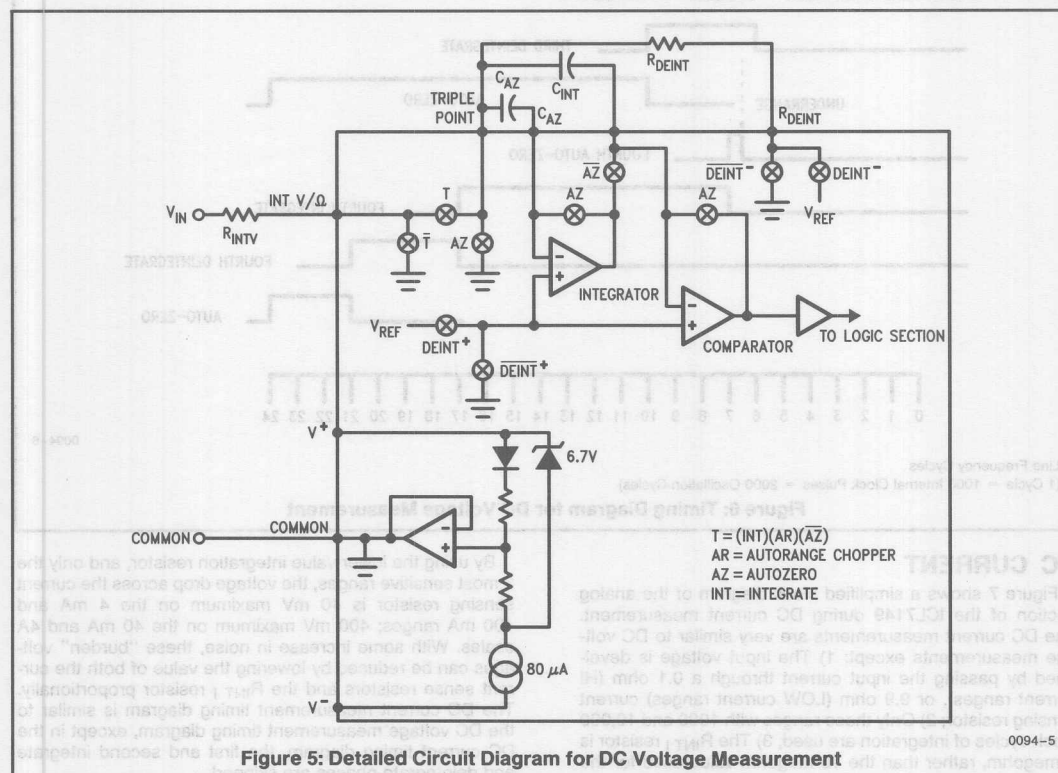
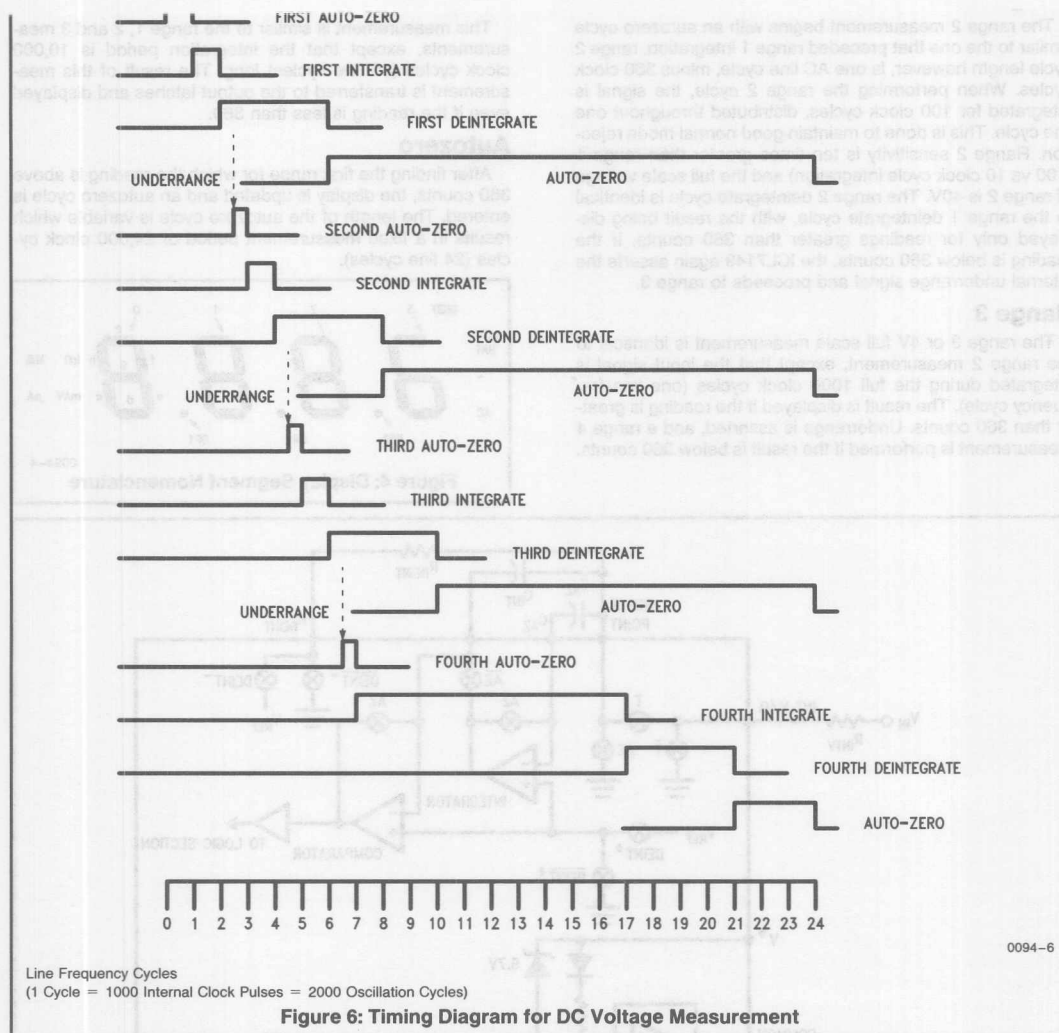

Figure 5: Detailed Circuit Diagram for DC Voltage Measurement
Figure 6: Timing Diagram for DC Voltage Measurement
Only those portions of the analog section which are used during DC voltage measurements are shown in Figure 5. As shown in the timing diagram (Figure 6), each measurement starts with an autozero (AZ) phase. During this phase, the integrator and comparator are configured as unity gain buffers and their non-inverting inputs are connected to Common. The output of the integrator, which is equal to its offset, is stored on C_{AZ}, the autozero capacitor. Similarly, the offset of the comparator is stored in C_{INT}. The autozero cycle equals 1000 clock cycles, which is one 60 Hz line cycle with a 120 kHz crystal, or one 50 Hz line cycle with a 100 kHz crystal.